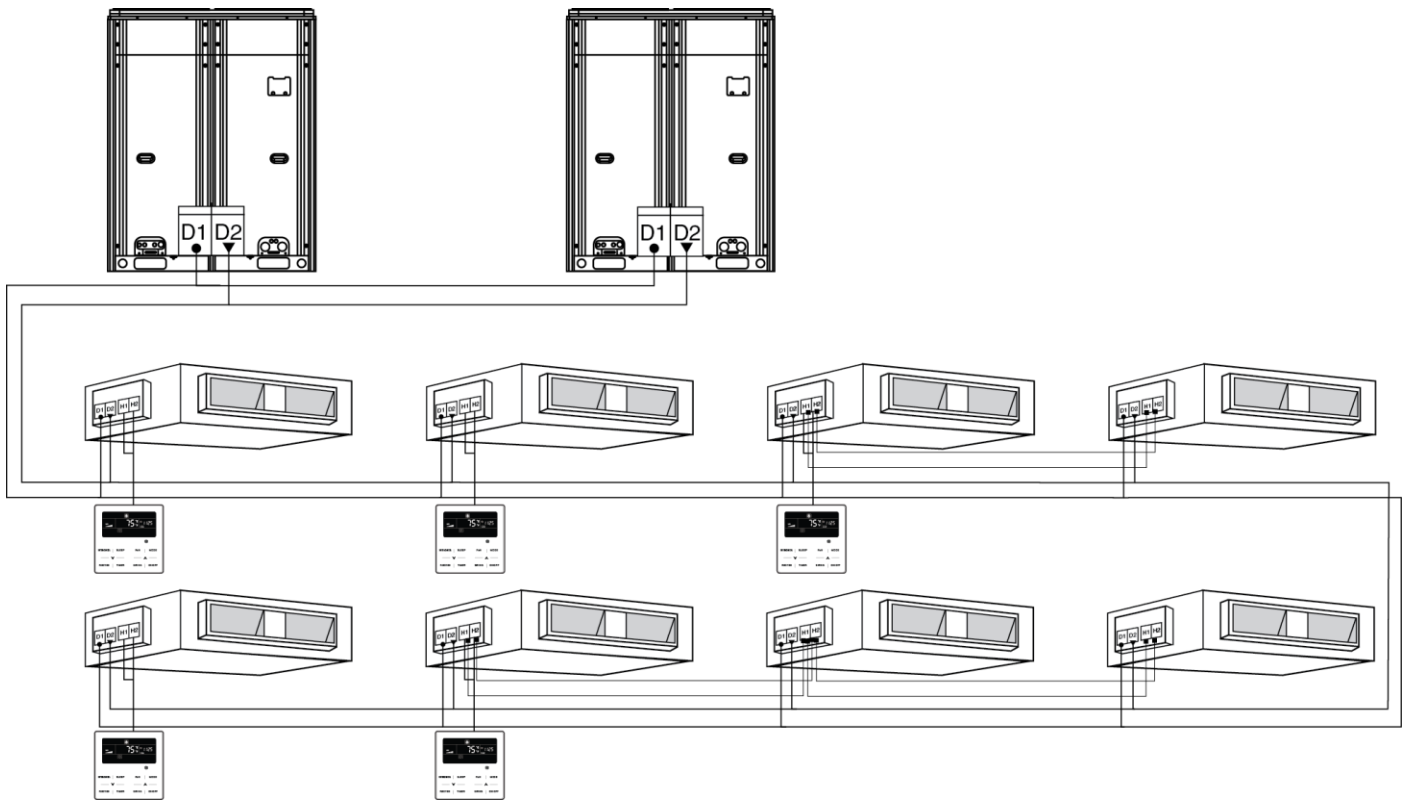

Fig. 32
4. One wired controller can control a maximum of 16 indoor units at the same time. (Fig. 32).